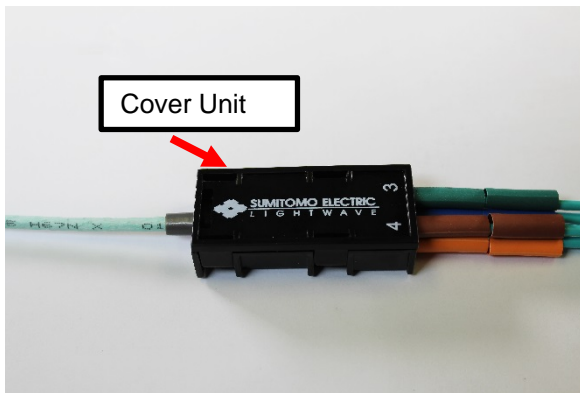

Figure 8
8.2 Install Assembly 1 subunit in position # 1 and Assembly 2 into position 2 of the base unit. Looking from the bushing location, the first assembly goes in the bottom left cavity and second assembly goes into the bottom right cavity. **See Figure 8**
8.4 Install Breakout Assembly Blanks into the Breakout Assembly Base for each assembly position not used. **See Figure 8**